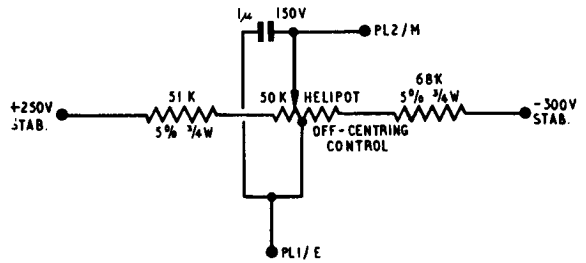

Fig. 8. Simulated off-centring control
- (2) The OFF-CENTRE control (horizontal for 313 or vertical for 314, as appropriate) should be simulated by the improvised resistor network of fig. 8. The +250V and -300V stabilized supplies should be the same as those feeding the amplifier under test.